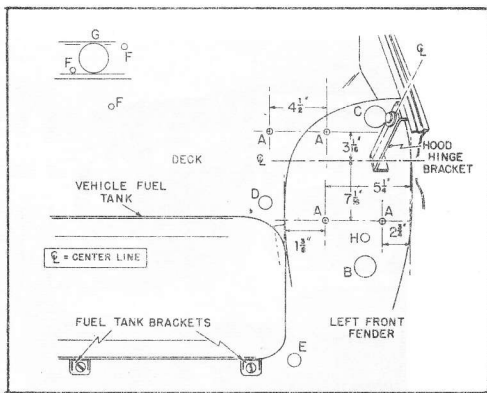

FIGURE 9
3. Remove the fuel line from the heater assembly and connect it to the fuel pump outlet. Route the fuel line under the fuel tank and up into the luggage compartment through the hole identified as "E" in Figure 9.
2. All holes are identified in Figure 9 alphabetically and are shown as follows: